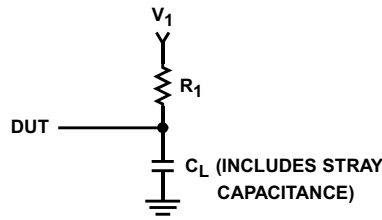

FIGURE 1. LOAD TEST CIRCUIT
7. See Load Test Circuit, Figure 1, $R_1 = 10k\Omega$, $C_L = 50pF$ (Includes Stray and Jig Capacitance).